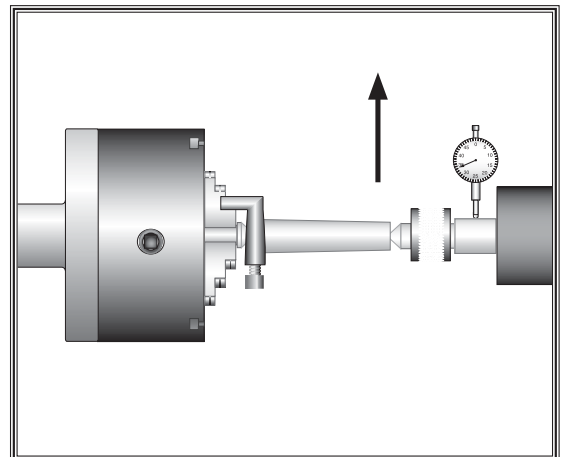

Figure 42. Tailstock adjustment option #2.
- If the stock diameter is thinner at the tailstock end, the tailstock needs to be moved away from the operator half the distance of the amount of the taper (see **Figure 42**).